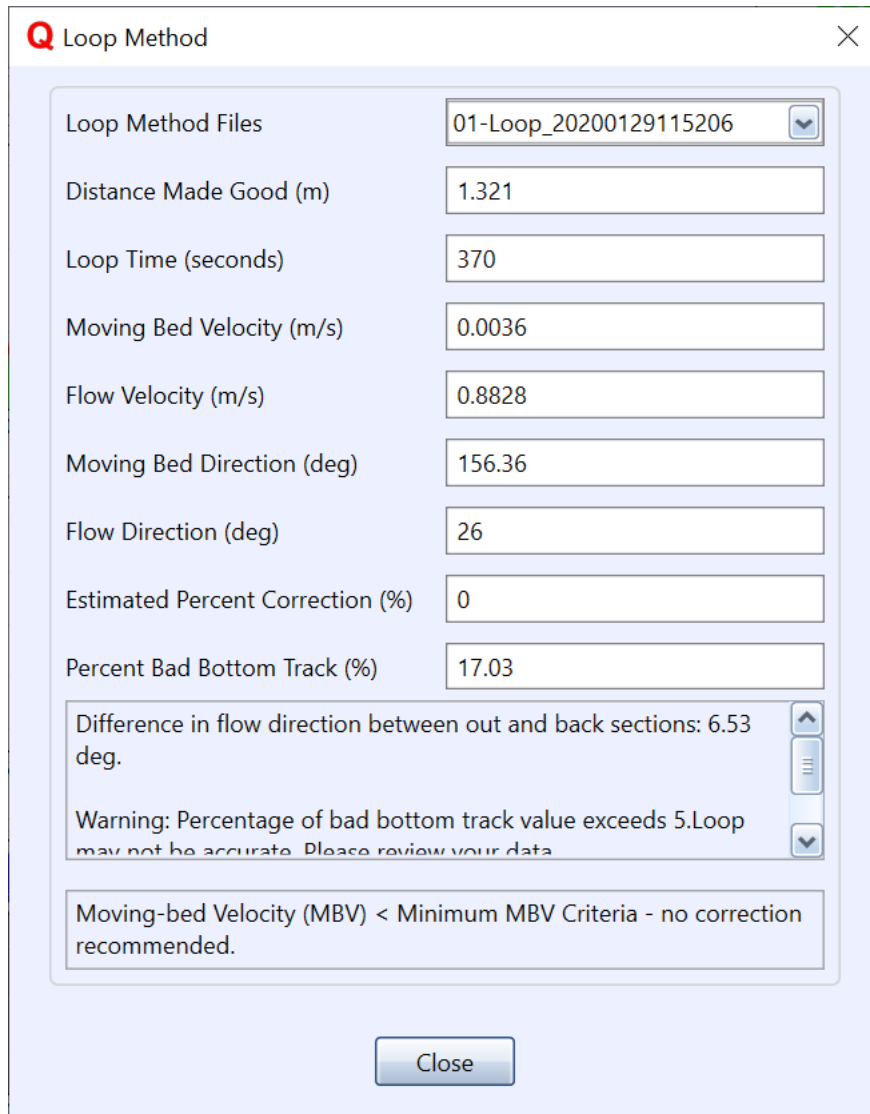

Figure 73. Loop Measurement Results
8. The results of the Loop measurement will be displayed automatically (shown in Figure 73).
Loop Measurement warnings and information are displayed near the bottom, and the final recommendation for a correction is displayed at the bottom. Figure 73 shows the results of a Loop Measurement with no correction recommended.